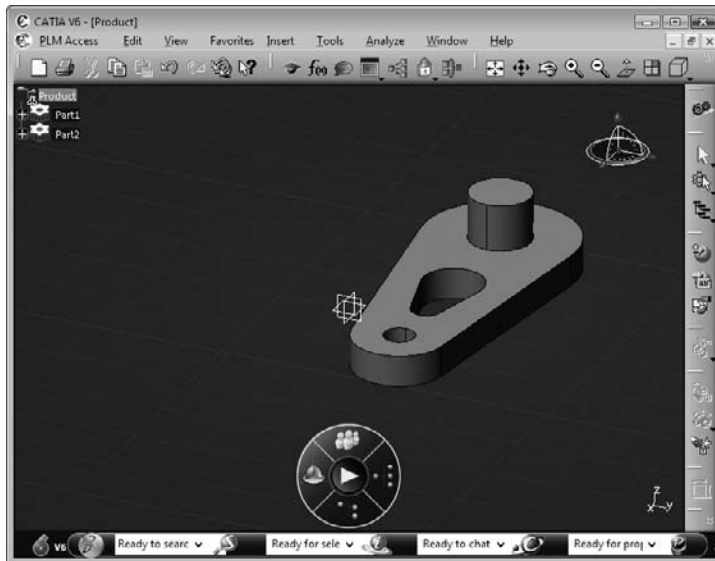

FIGURE 4.19
10. *Repeat* steps 5 to 9 to add the second component, **Part2**, to the **Product** assembly, as shown in **Figure 4.19**: